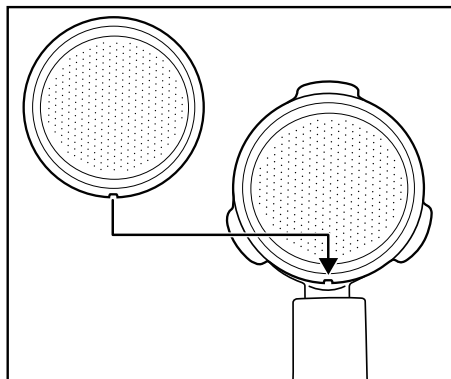

Figure 2
- 1) Fill the water tank ④ with tap water.
- 2) Place either the large ⑲ or the small espresso sieve ⑳ in the sieve holder ⑮:
- Make sure that the small indentation on the large ⑲ or small espresso sieve ⑳ is located above the indentation on the sieve holder ⑮ when inserted (Figure 2).